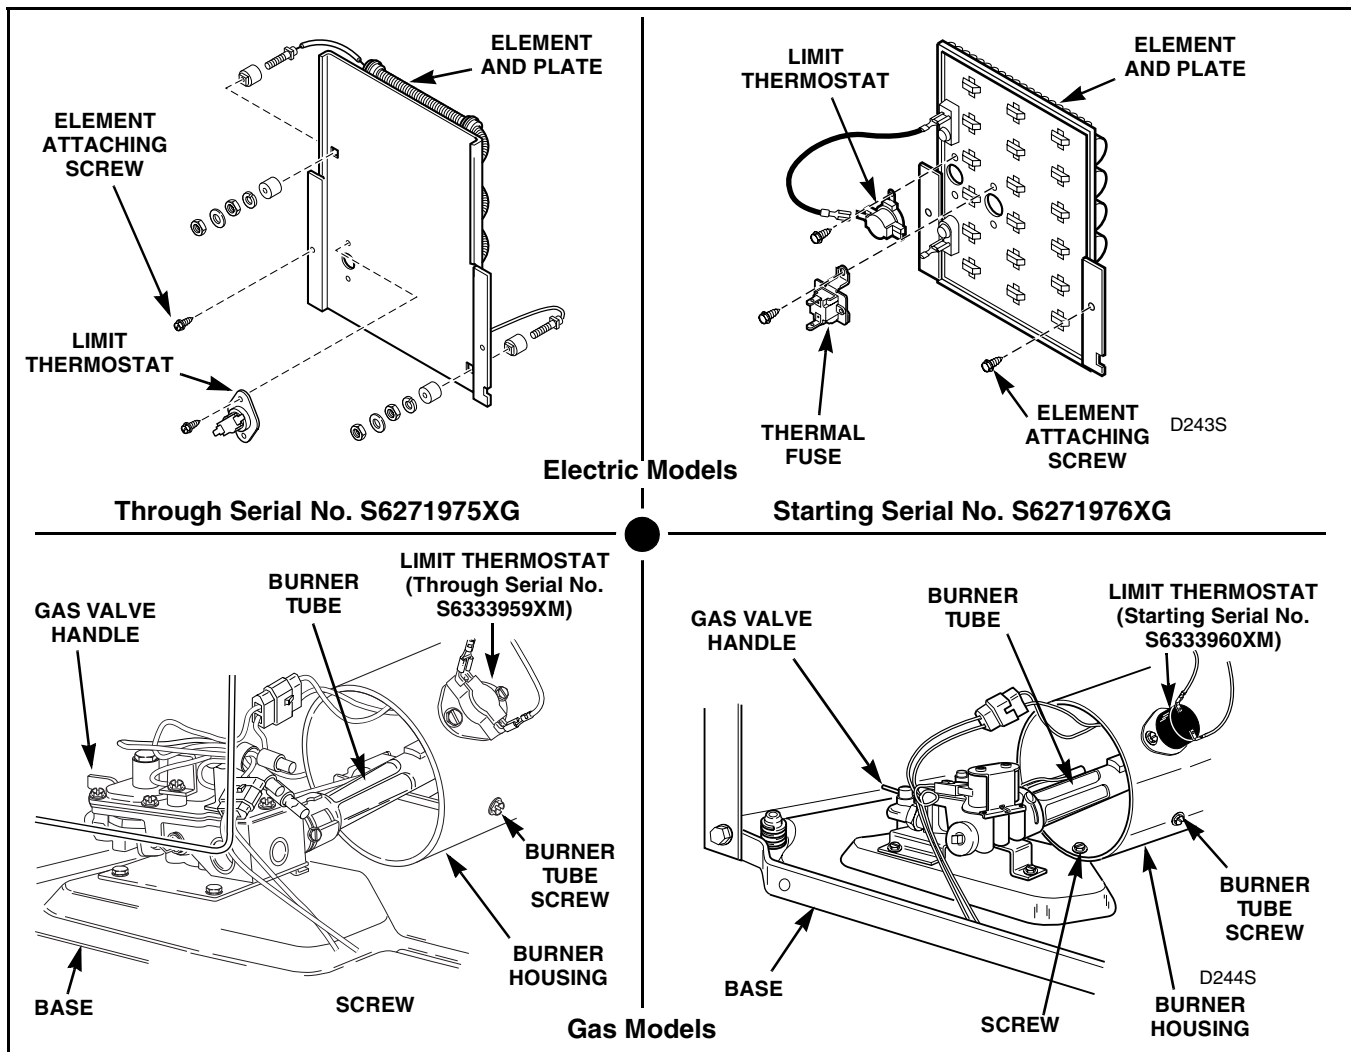

Figure 23
- (1) Remove one screw from right side of burner housing holding burner tube in place. Refer to *Figure 23*.
- e. Remove screw from right side of burner housing, holding burner tube in place. Refer to *Figure 23*.
- j. Remove screw holding front of burner housing to dryer base and remove housing out through front of dryer. Refer to *Figure 23*.
- d. Disconnect wires and remove screws attaching limit thermostat to burner housing or element plate. Refer to *Figure 23*.
- Remove two screws holding element and plate to heater box and pull element down and away from heater box. Refer to *Figure 23*.
- Disconnect wires from element and plate. Refer to *Figure 23*.
- Remove screws holding thermostat (and thermal fuse, if present) to element and plate. Refer to *Figure 23*.